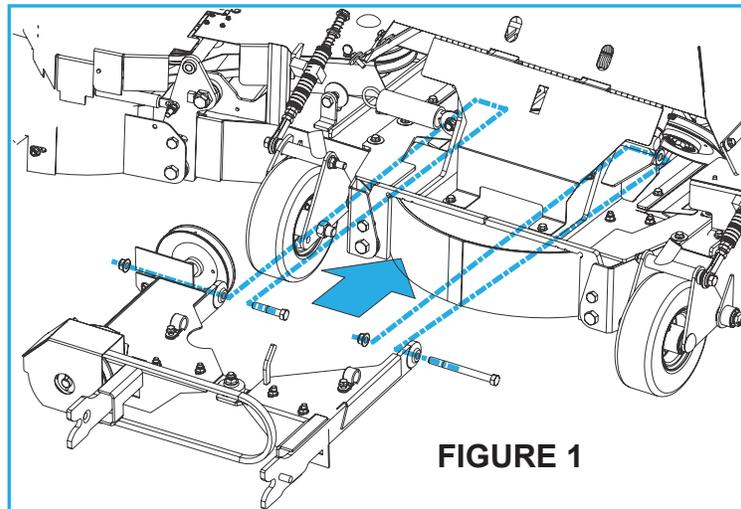

FIGURE 1
2. Attach the push arms to the deck using the supplied hardware. Orient bolts as shown. torque to 90-100 ft lbs. Check and re-torque after initial break in. **(Figure 1)**